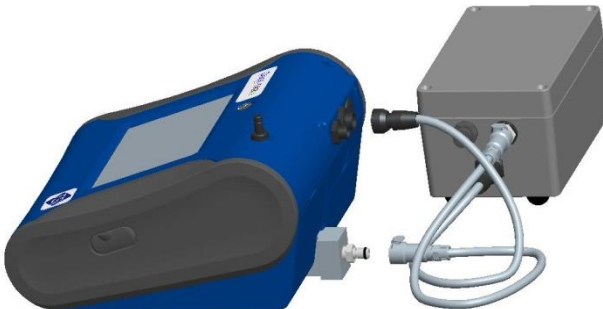

Figure 2-5: Connect Power Connector to DustTrak Monitor
5. Connect the other end of the power connector to the DustTrak™ monitor (see Figure 2-5).